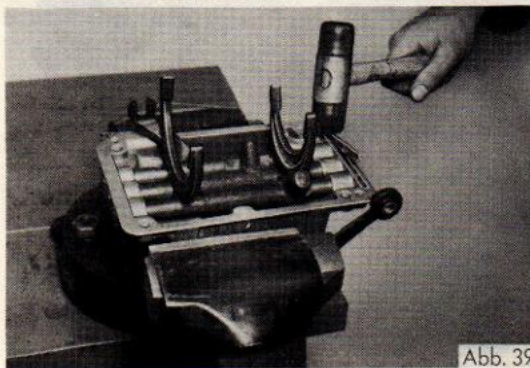

Abb. 39
30. Insert selector spindle locking plate into selector head (Fig.39)